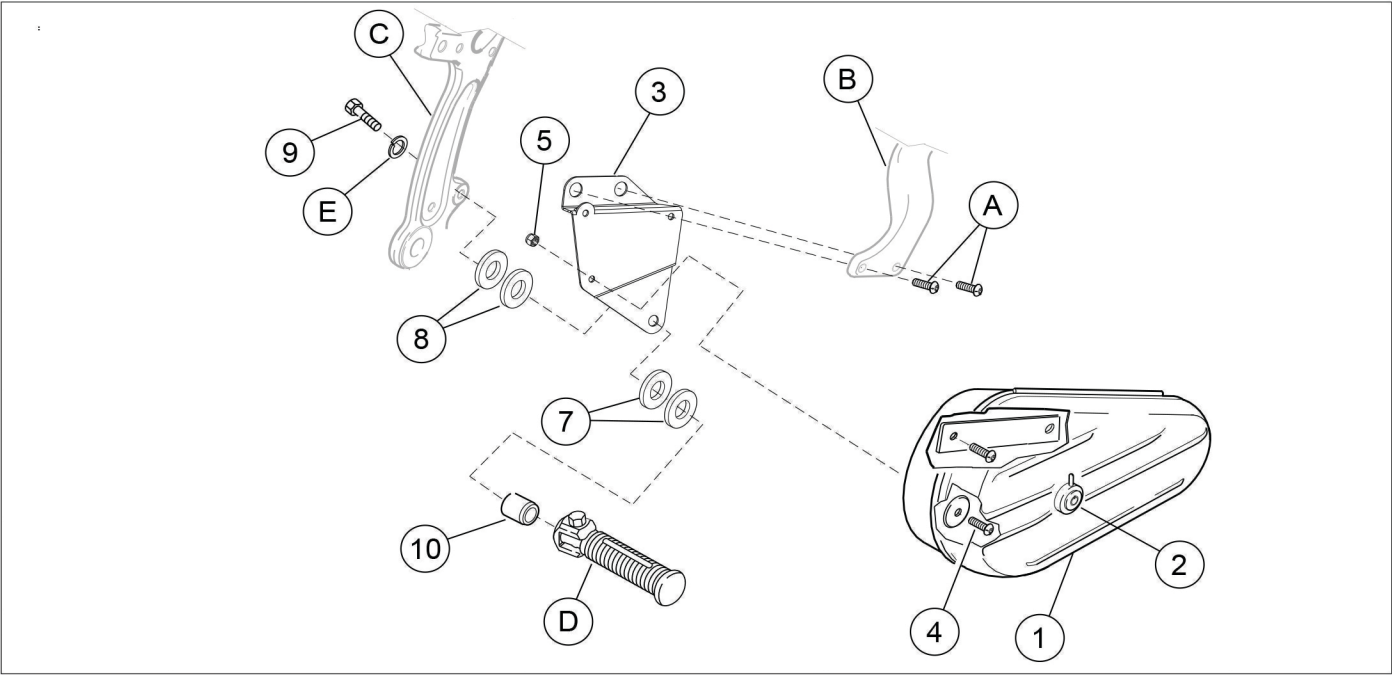

Figure 1. Service Parts: Left Side Toolbox Kit
See Figure 1 and Table 1.
1. See Figure 1. Attach toolbox (1) on toolbox mounting bracket (3) using three pan head screws (4) and nuts (5).
2. Remove the two screws (A) which secure right rear fender support cover (B) to the frame (C). Save screws for installation.
3. Remove the footrest mounting bolt (9) and lockwasher (E). Save footrest (D) and lockwasher (E).